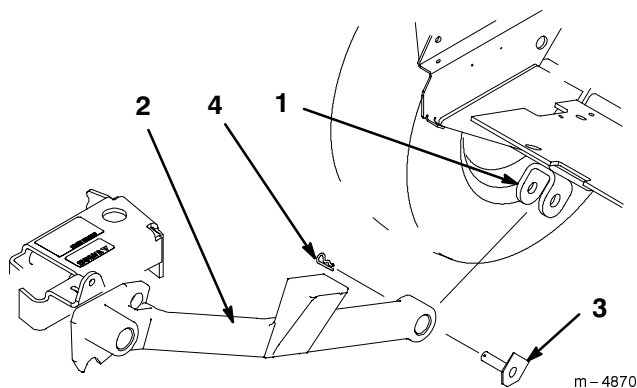

Figure 31
2. Position carrier frame in front of traction unit and place push arms into clevises (Fig. 31).
3. Install push arms with pivot pin assemblies, aligned with flat against frame, and secure with hairpin cotters (Fig. 31).